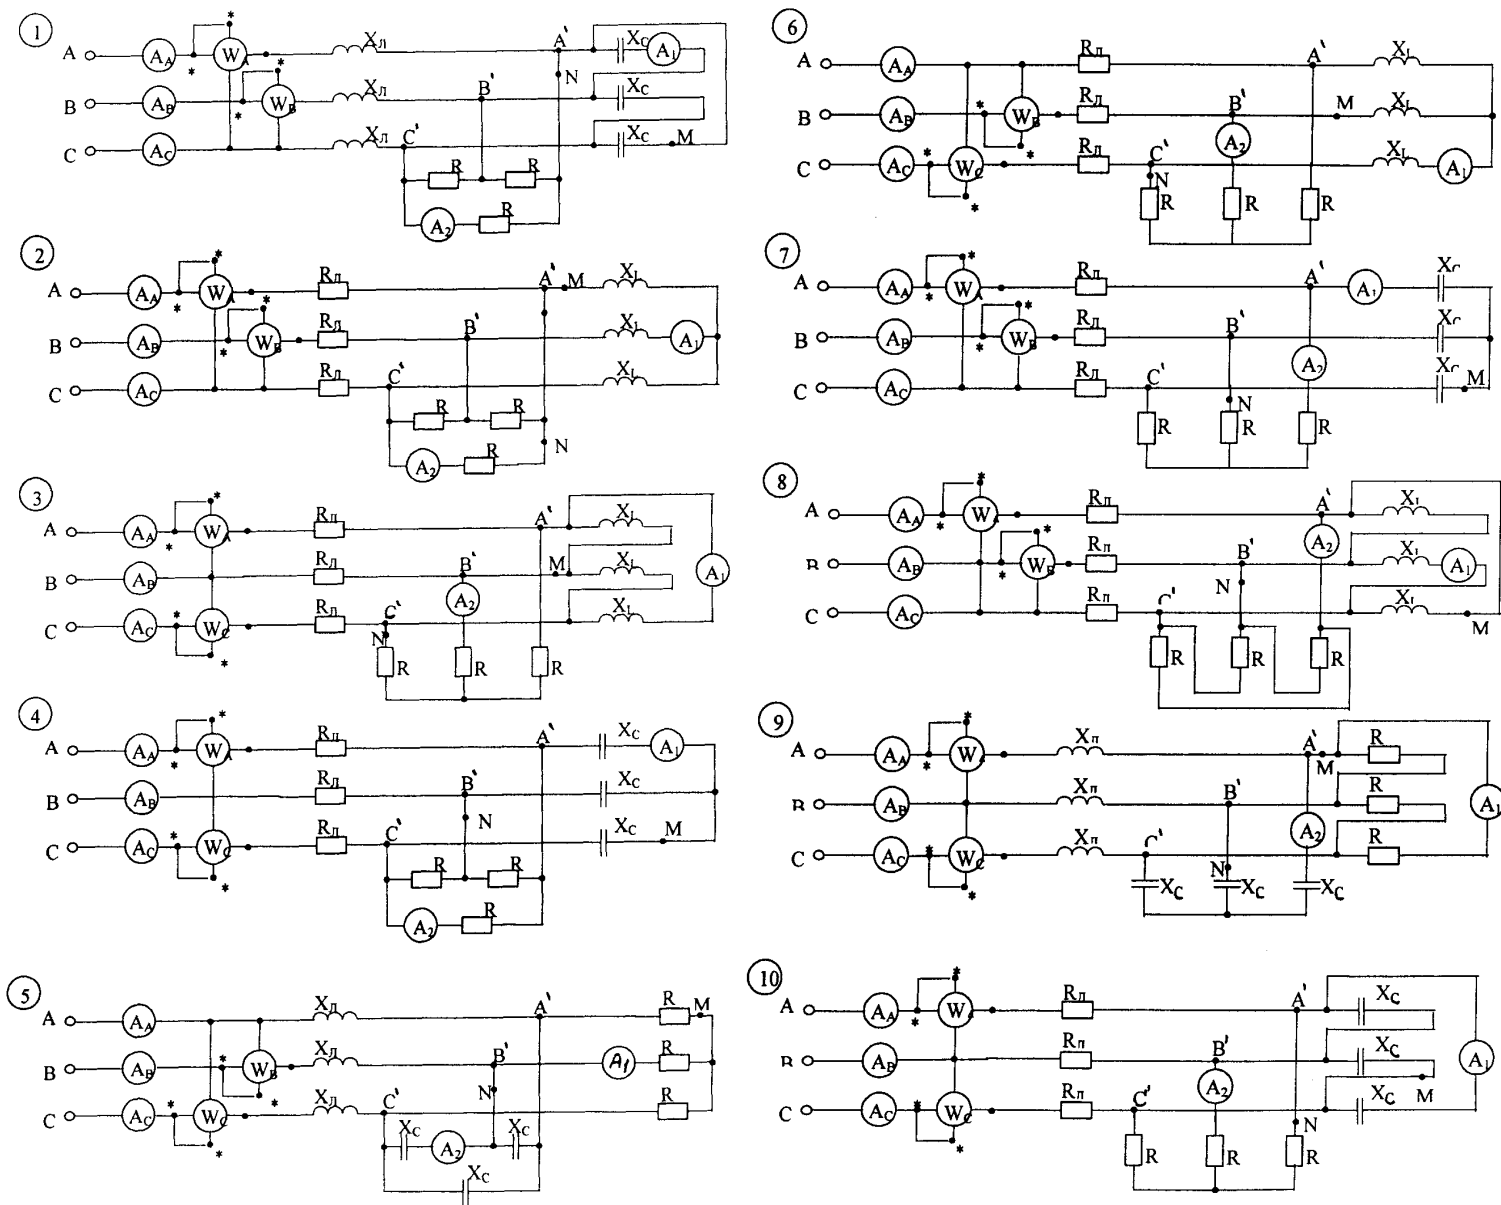

Fig. 8.1. Variants of schemes.
1. Create a model of the circuit in Simulink according to the option in Fig.8.1 - 8.2 and enter the parameters of the elements according to the option in table 1. The parameters of the three-phase circuit elements are calculated by formulas (8.1) - (8.3):